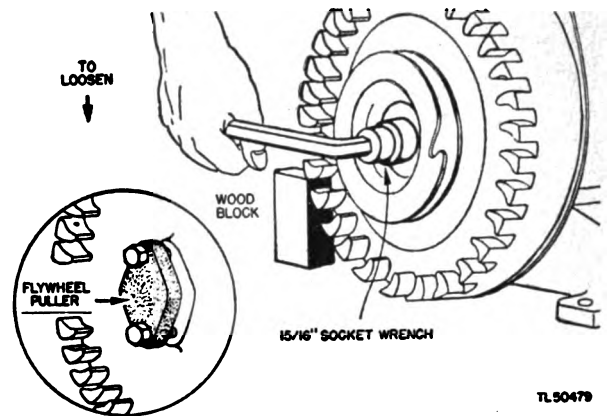

Figure 55. Removing flywheel.
(1) Disconnect the governor spring and throttle control rod.
(2) Remove the governor lever by loosening the screw.
(3) Remove the engine from its base, and tilt it back so that it rests on the fuel tank.
(4) Remove the oil pump. (See par. 36.)
(5) Remove the screw and slide out the governor gear assembly. If any parts show breakage or undue wear, replace these parts with new ones. To replace the governor, reverse the above procedure.
a. REMOVING. The flywheel is securely attached to the crankshaft by means of a taper fit, a soft flywheel key (Woodruff No. 9), a lockwasher, and a right-hand thread nut. Remove the blower housing. Place a block of wood under a flywheel fin on the left side of the flywheel to hold it rigid and prevent its turning. (See fig. 55.) Place a 15/16-inch socket wrench on the nut. Apply a force to the wrench in a counterclockwise direction. Tap the wrench with a hammer to loosen the nut. Great care is necessary in this operation to prevent breaking a fin from the flywheel, causing unbalance and rendering it useless. After the pulley is removed, remove the two screws and washers from the flywheel. The flywheel can then be
thread nut. To remove the flywheel, proceed as follows (fig. 55):